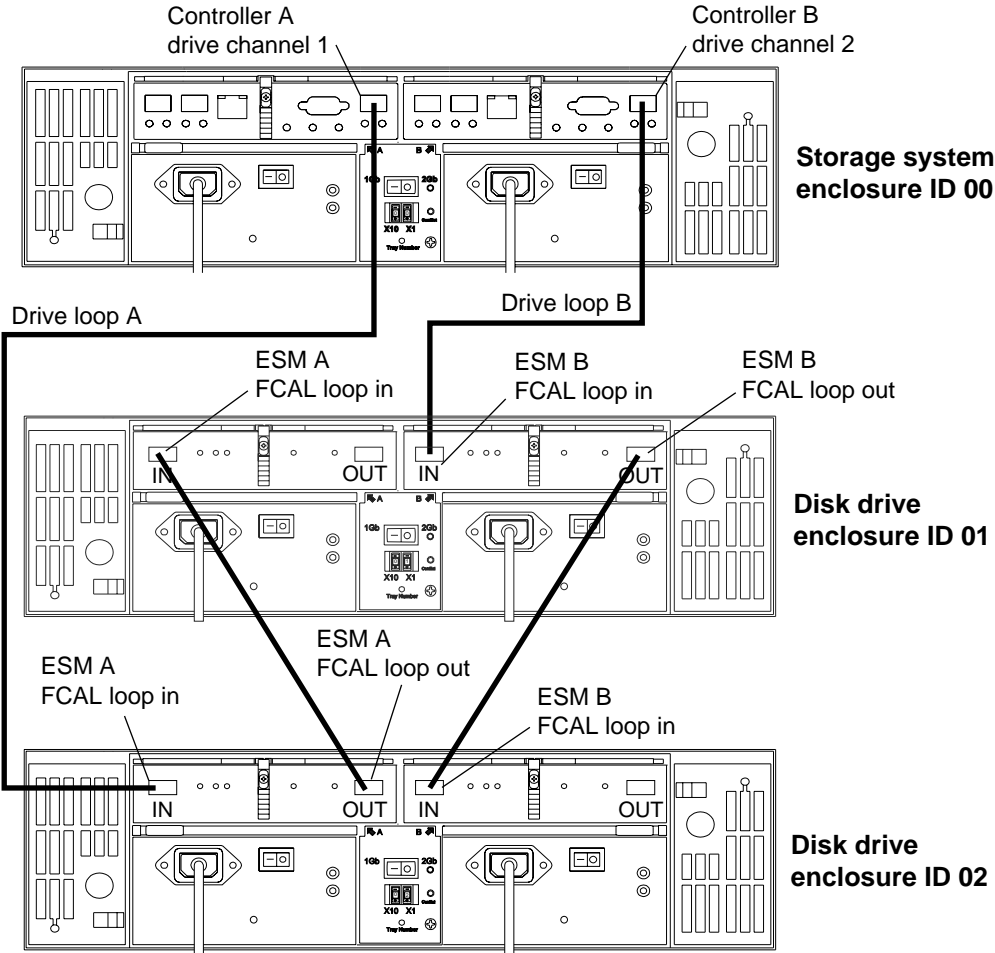

Figure 5-4 Drive Loop Cabling for Systems with Three or More Enclosures
2. If you have a second controller, connect an interface cable from the drive loop connector on the right RAID controller module to the **drive channel out** connector on the right environmental status module in the expansion enclosure. This creates a redundant drive loop between the two enclosures (see Figure 5-4).
- Connect additional drive enclosures to drive loops A and B by connecting the **drive channel out** connectors on the new enclosure to the **drive channel in** connectors of the expansion enclosure directly beneath it (see Figure 5-4).